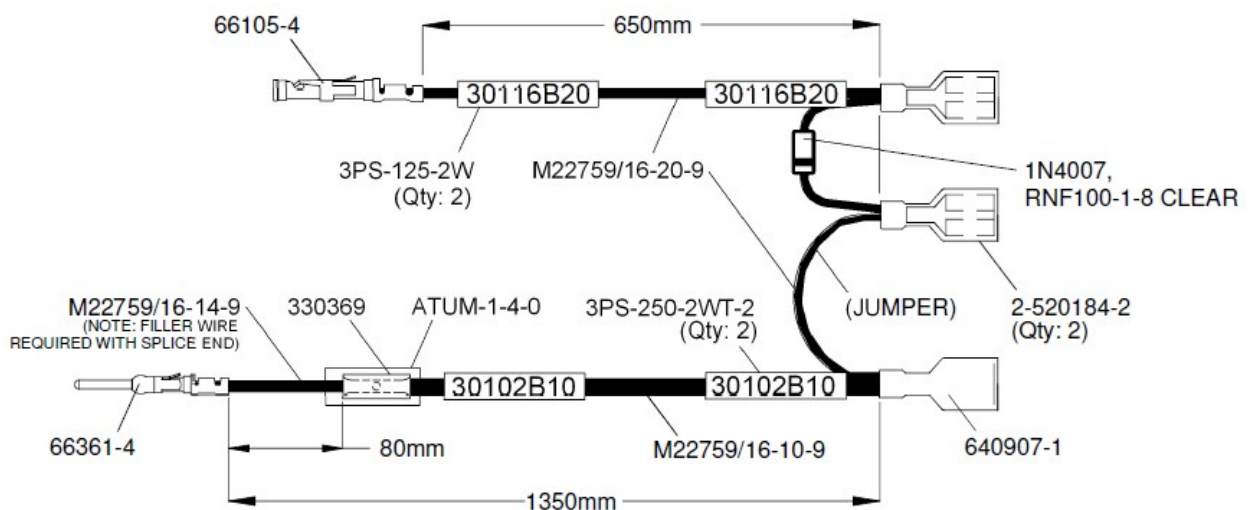

Figure 23: Preparation of Fuselage Relay Wires
- 12.2.1.1 Prepare the relay wires according to Figure 23.